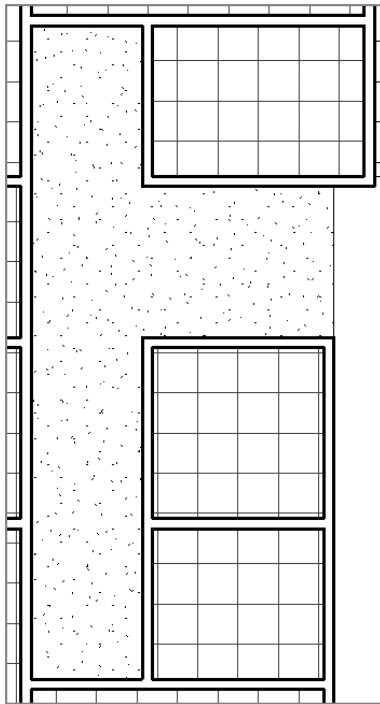

FIGURE 3.34 Assigning materials to a ceiling
8. Click OK until you close all the dialog boxes and return to the ceiling plan view. The result is shown in Figure 3.34. You can now distinguish the ceiling from the open areas that have no ceiling.